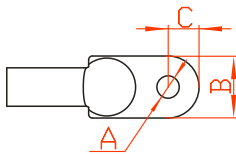

Figure3-29 Terminal size requirements
- When the AC output uses copper wire, it is recommended to use DT/OT terminals (as shown in Figure3-29) for the terminal block. The terminal specifications and requirements: $13\text{mm} \leq A \leq 15.5\text{mm}$, $B \leq 46\text{mm}$, $C \leq 22\text{mm}$.